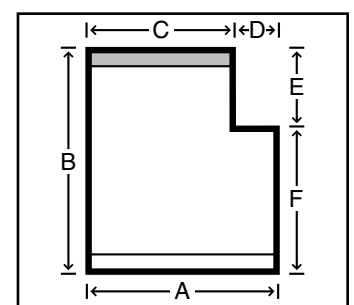

Figure 14 Head Rail Cut Out
- Head rail cut out blinds (Figure 14) are controlled on the opposite side of cut out. Inside mount blinds will raise to the widest width. Outside mount blinds will raise to the head rail.